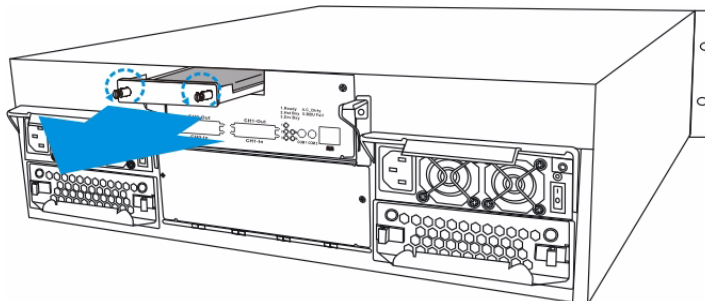

Fig. 6.8 Removing the BBU Module
1. Remove the faulty BBU from the chassis. Loosen the two (2) retention screws located on both sides of the BBU, then pull out the BBU. (See *Figure 6.8*)